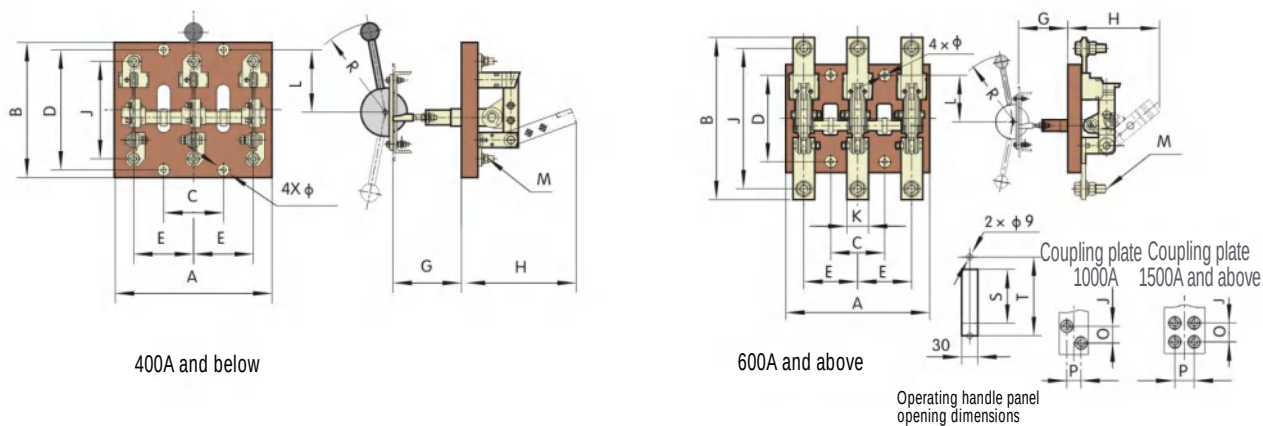

Figure 7
5.7 HD13 appearance and installation dimensions (see Figure 7, Table 8).